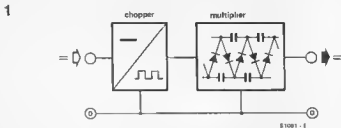

Figure 1. DC to DC conversion by chopping the input voltage and multiplying the AC signal thus obtained via a network of diodes and capacitors.
Two more remarks: As illustrated in figure 1, the existing connection between points i and j in the vocoder will have to be interrupted when the voiced/unvoiced detector is connected. The i-j connections will therefore have to be broken both on the 'old' and on the 'new' bus board.
Overvoltage protection can only be effective when the supply voltage is carefully limited, in other words, by including a voltage control system. Even so, this still does not prevent the output voltage from being able to rise above the preset value. Even electronic voltage controllers, whether they be discrete or integrated, can fail. Although the power supply usually suffers very little damage, the circuit itself is often considerably damaged. Brief voltage peaks in the supply as well as complete power failure can also write off expensive IC's. Prevention being better than cure, or in this case, repair it is worthwhile to include a fuse and a zener diode at the output of the power supply, as shown in figure 1.
1. Conversion by 'chopping' the DC input voltage and then multiplying the AC waveform produced via a network of capacitors and diodes (see figure 1). Technically, this is a very elegant solution and one which requires very little space. However, the principle, especially where high power is involved, requires the use of high quality (expensive) components.